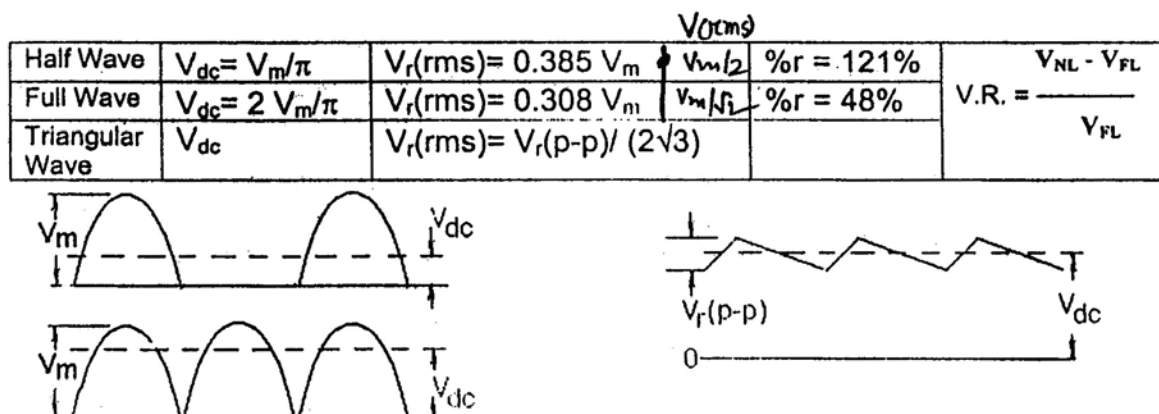

Fig.3
5. Determine V_m and calculate $V_r(\text{rms})$ the rms value of the ac component (see Fig.3).